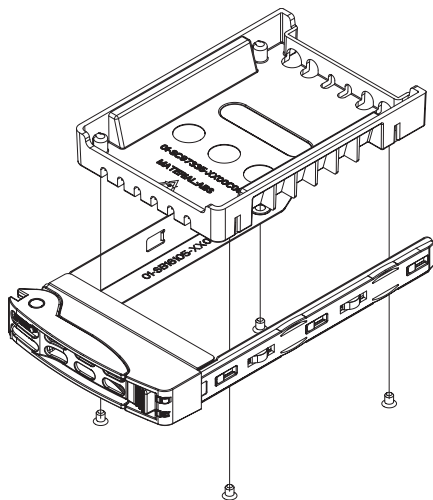

Figure 5-8. Removing Dummy Drive from Carrier
3. Remove the dummy drive from the carrier (Figure 5-8).